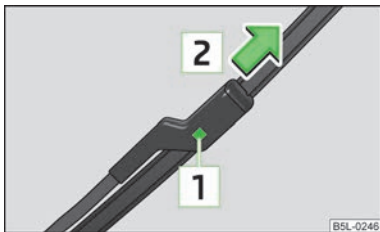

Fig. 32
- Press the locking button [1] » Fig. 32 to unlock the wiper blade and pull off in the direction of the arrow [2].